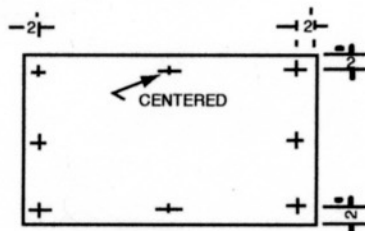

FIG. 2
- When using the HY-C Stove Board/Floor Protectors as a wall shield, use HY-C Installation Kit No. ULSK by positioning the boards against the combustible wall to be protected. Hold each board in turn, flat against the wall in its position, and drill 1/4" holes completely through the board and into the wall behind. See hole pattern in Fig. 2.